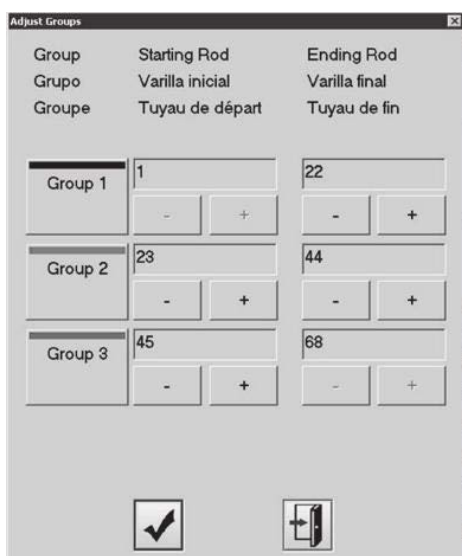

FIGURE 50
The following operations can be performed from the Maintenance screen (Figure 50):
1. On the Main screen (Section 7.2), click Adjust Group to open Adjust Group Screen (Figure 50).